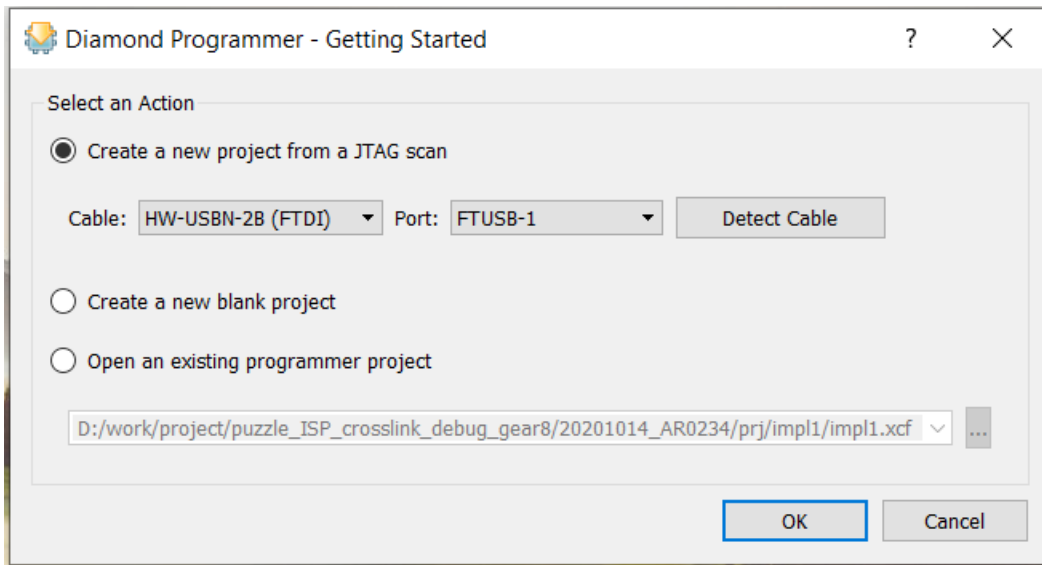

Figure 5.1. Getting Started dialog in Lattice Diamond Programmer
4. The Diamond Programmer - Getting Started dialog box pops up (Figure 5.1). By default, the *Create a new project from a JTAG scan* option is selected. Check and confirm other settings are correctly reflected the real components connected (Figure 5.1). Click OK, if everything is correct.